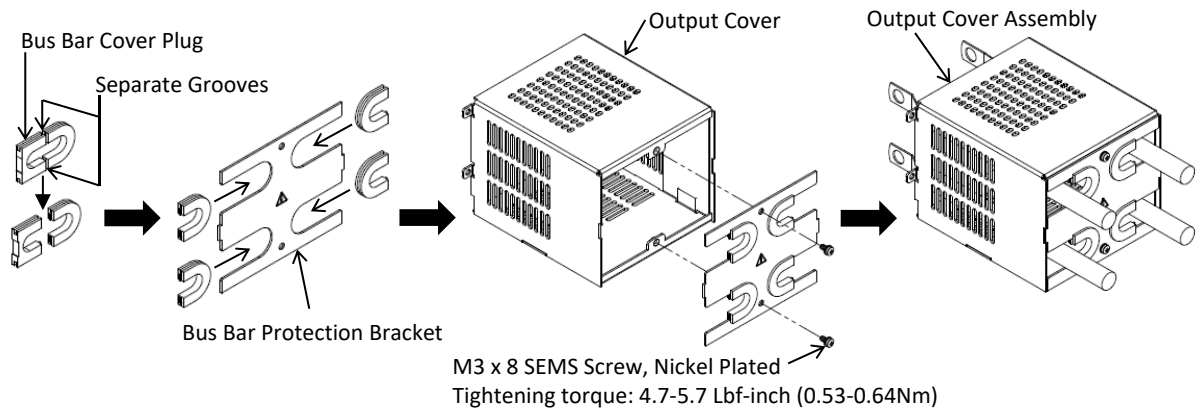

Figure 20: Two 60V-100V Units, Wire Diameter > 11mm, Output Cover Assembly
- For load wires with a diameter greater than 11 millimeter divide each bus bar cover plug into two separate parts by bending and breaking it along its separate grooves, as illustrated in Figure 20. Insert only the rounded parts into the bus bar protection bracket and fix it to the output cover using two SEMS screw. Insert output cover assembly through the cables as illustrated in Figure 20.